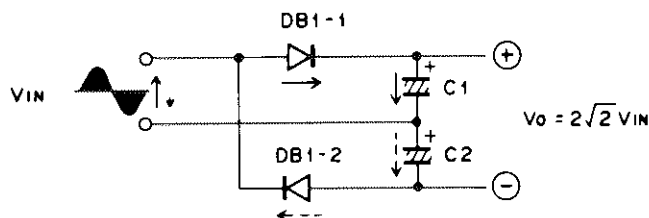

FIGURE 2-4. VOLTAGE MULTIPLYING RECTIFIER
2.2.3 Voltage Multiplying Rectifier (Figure 2-4)